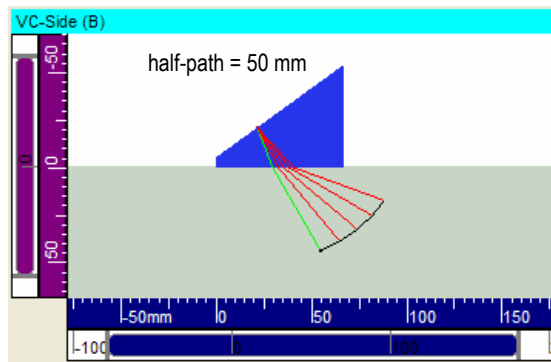

Figure 4-25 Half-path focalization
- **Half path:** all beams are focused at a constant half-path (distance) value (see Figure 4-25 on page 58).